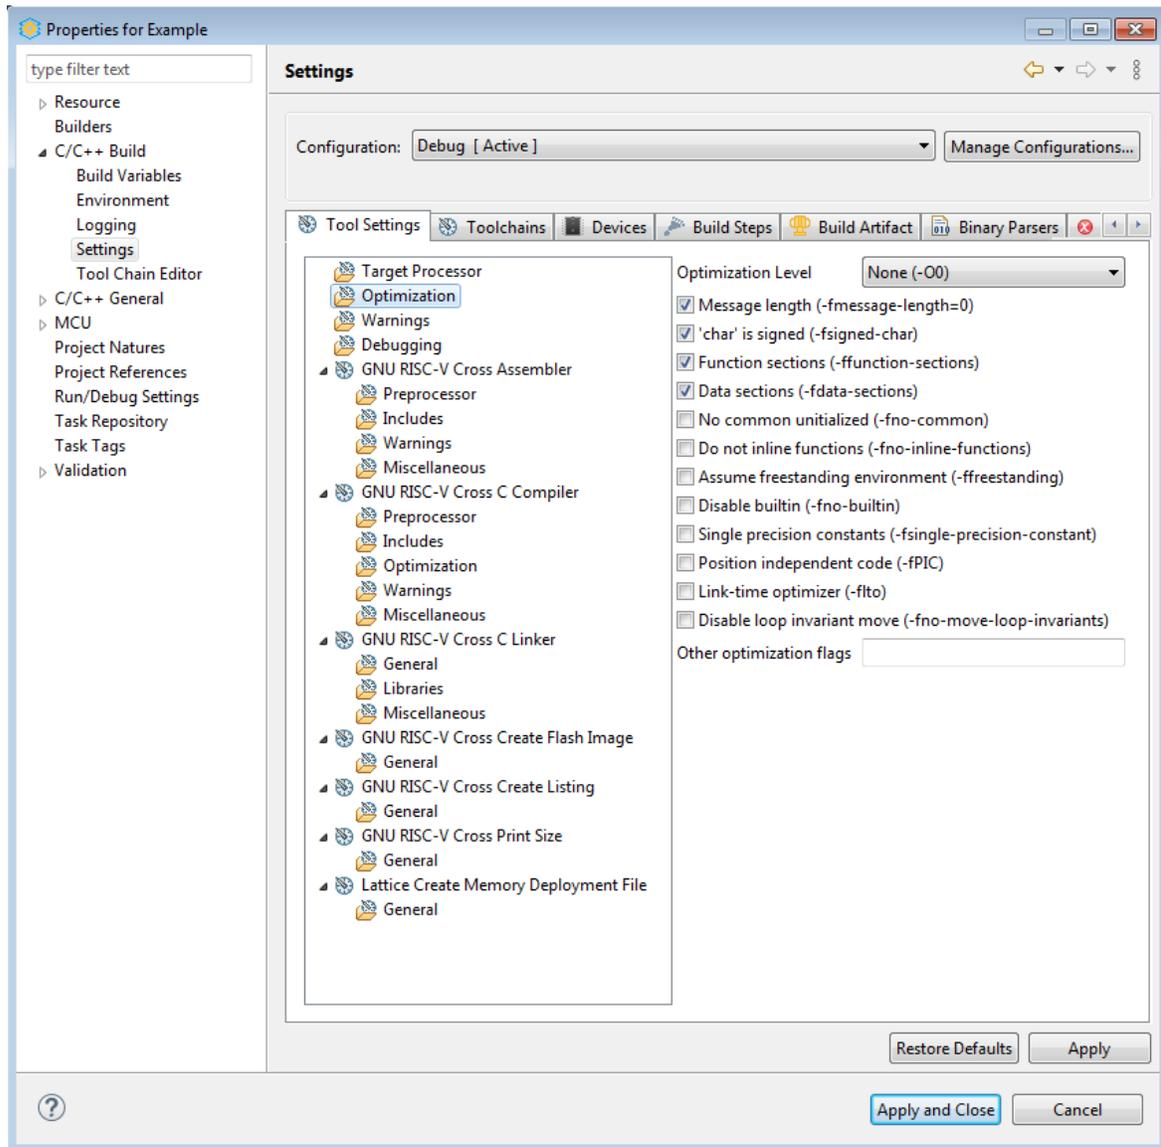

Figure 3.19. Properties of C Project
2. Choose **Project > Properties**. The Properties for current project opens (Figure 3.19).